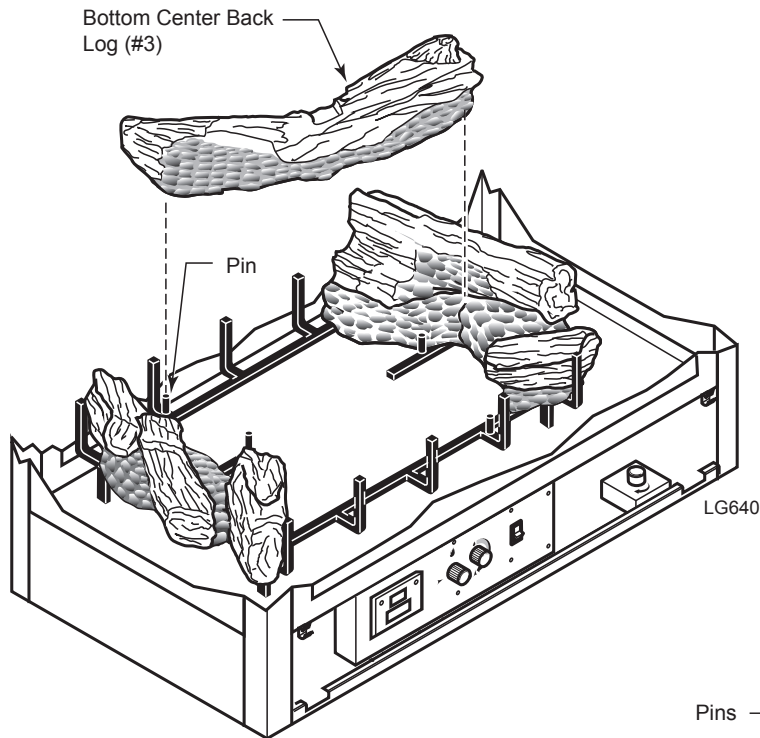

Figure 43 - Install Bottom Center Log (#3)
5. Position left end of bottom center back log (#3) beside rear end of left log (#1). Line up pin on grate with pin hole in bottom of center back log (#3) Snug right end of bottom center back log (#3) to the middle of right log (#2). *Figure 43*